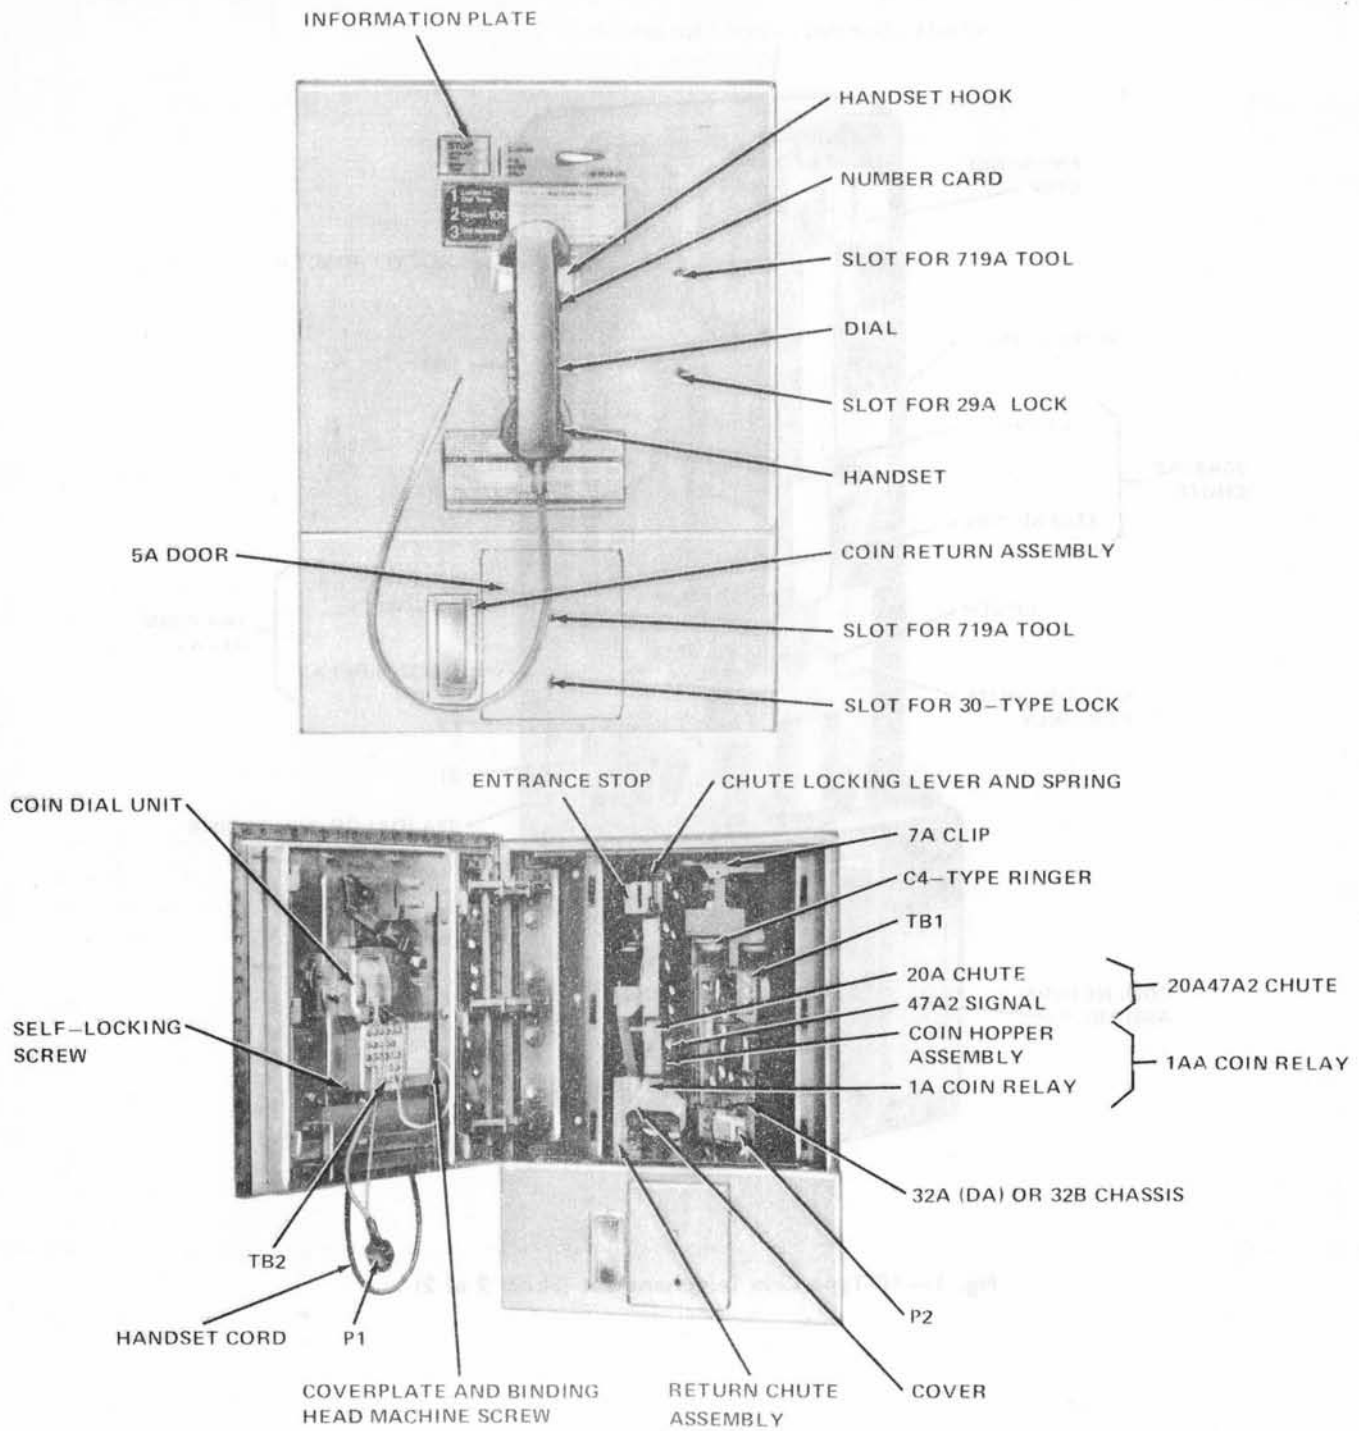

Fig. 2—2D-Type Coin Telephone Set
1.01 This document contains information on the 1- and 2-type coin telephone sets. The 1-type coin telephone set is shown in Fig. 1 and the 2-type coin telephone set is shown in Fig. 2. The coin telephone set codes are shown in Table A. The detailed description of the set can be found in Document 506-100-120.